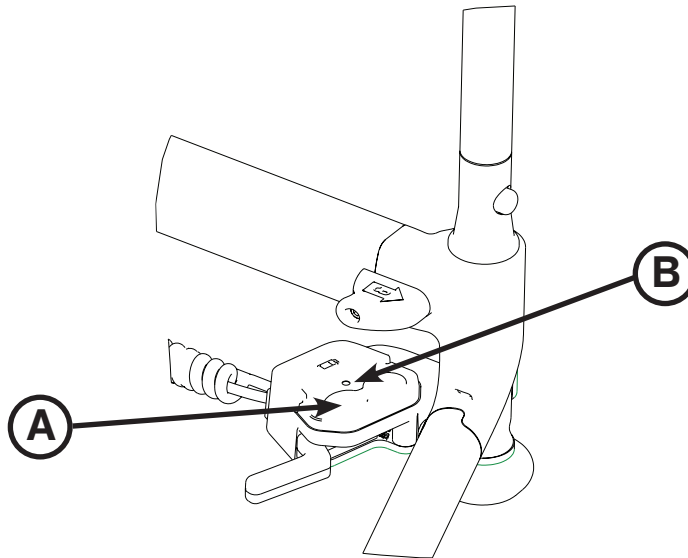

Figure 18: Battery Power Indicator
To check the battery power level, depress **lightly** on the retract (-) button (A) to activate the power indicator LED (B) as shown in Figure 18.